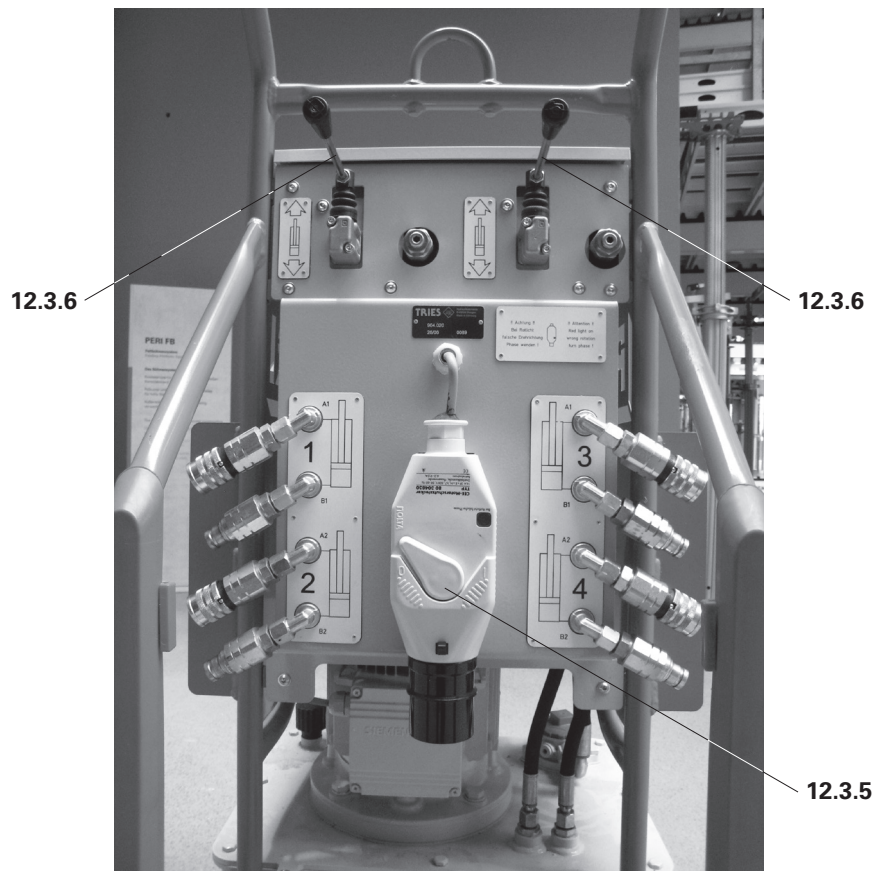

Fig. 18
1. Relieve Hydraulic Traction Cable Winch H60 (5) by pressing the control lever down (12.3.6).
2. Move the control lever (12.3.6) into the starting position. (Fig. 18)